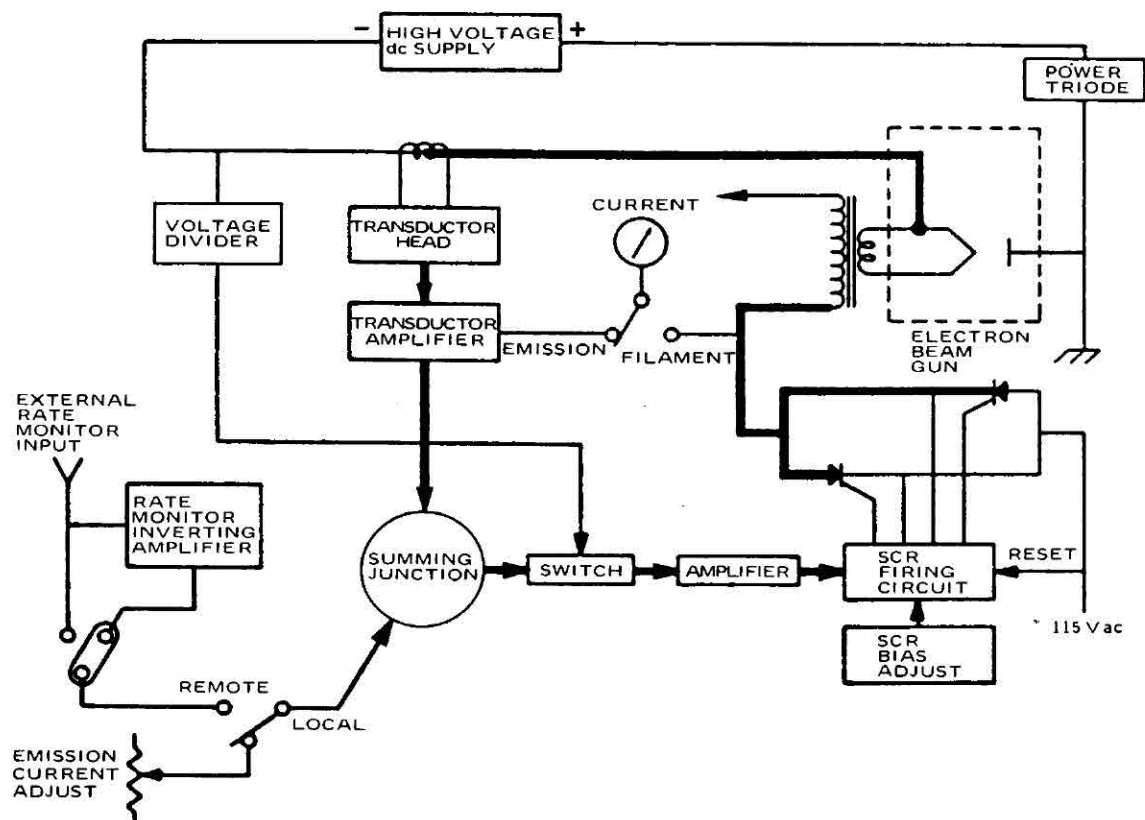

Figure 4-7. CV-14 A and B emission current regulation block diagram
- 4.3.1 Overall Operation (Figure 4-7)